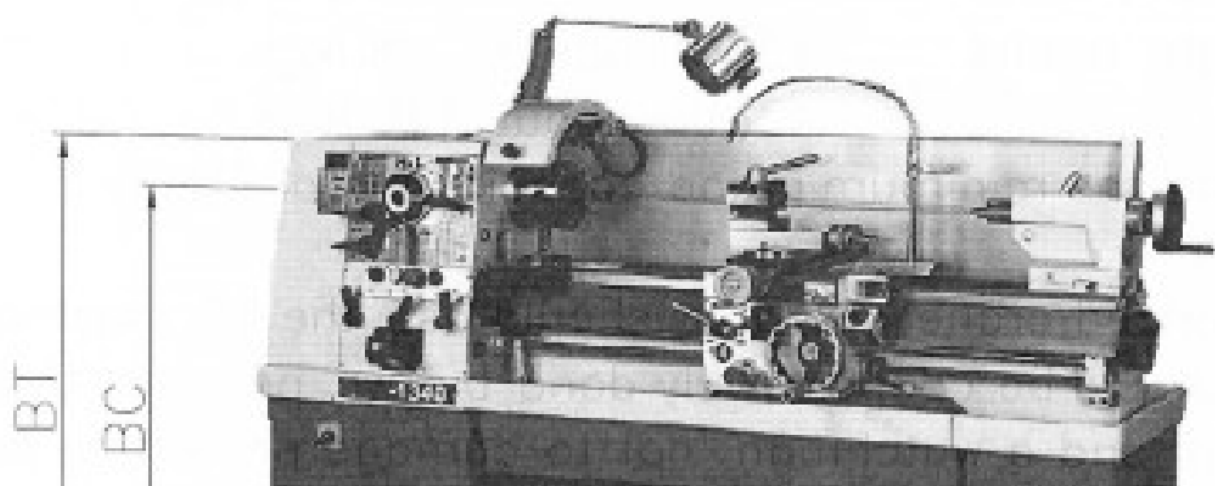
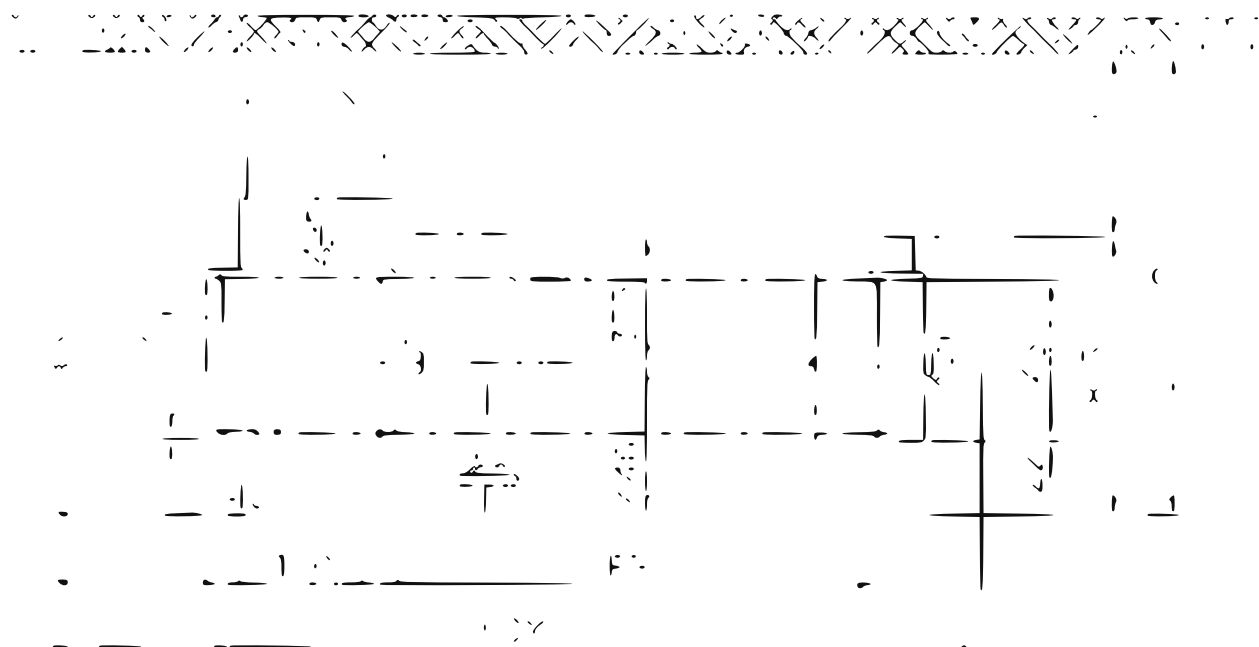

Figure 3-2: Overall machine dimensions
Figure 3-3: Foundation plan (dimensions in mm)
Figure 3-2 shows the overall machine dimensions and Figure 3-3 the foundation plan. Table 3-1 gives the dimensions for each model with the one-piece solid stand, which is equipped with a front moveable chip tray (optional).
- 1 Locate the machine on a solid foundation, according to the foundation plan (see 3.2 and Figure 3-3).